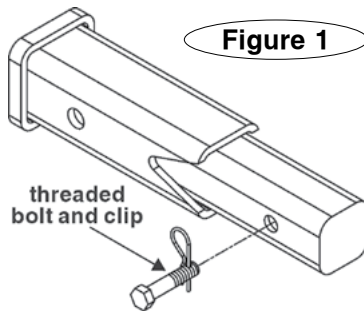

Figure 1
1. Slide the end of the extension into the hitch receiver, align the holes and secure the extension to the receiver with the threaded bolt and clip (Figure 1).